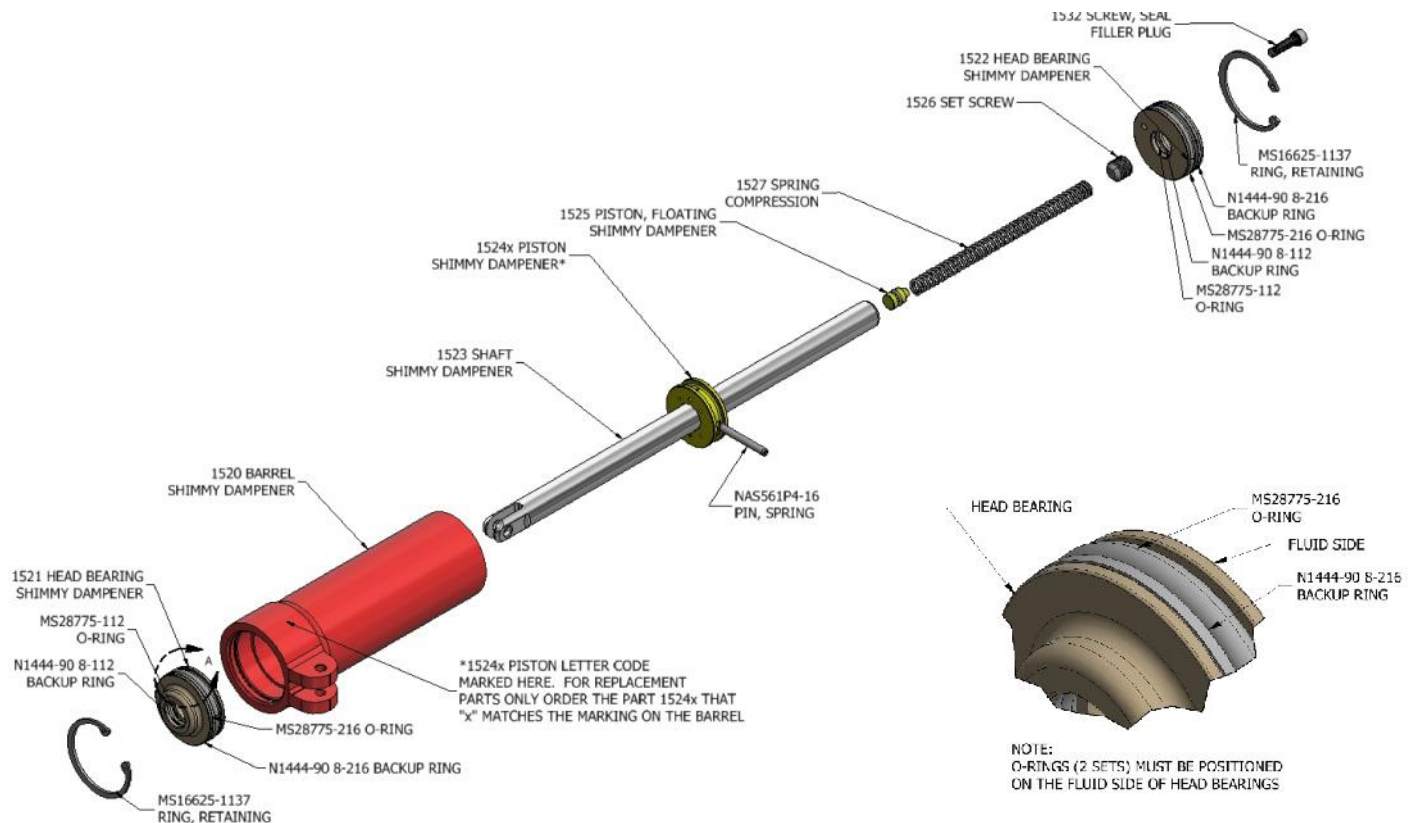

FIGURE 1 – Exploded View of McFarlane Aviation, Inc. P/N MC0442512-1 Shimmy Dampener Assembly
B. SHIMMY DAMPENER ASSEMBLY (Refer to Figure 1)
- 1) Do the servicing of the shimmy dampener as follows (Refer to Figure 1):
- 1) Service of the shimmy dampener as follows (Refer to Figure 1):